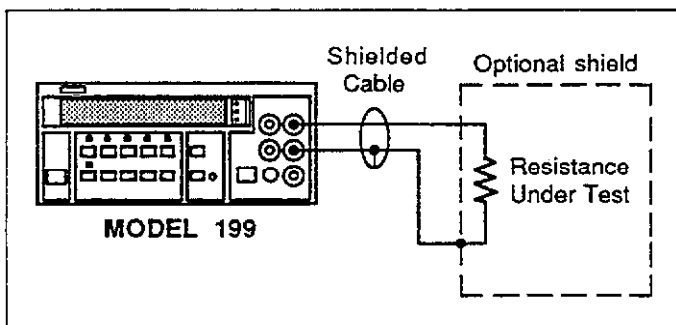
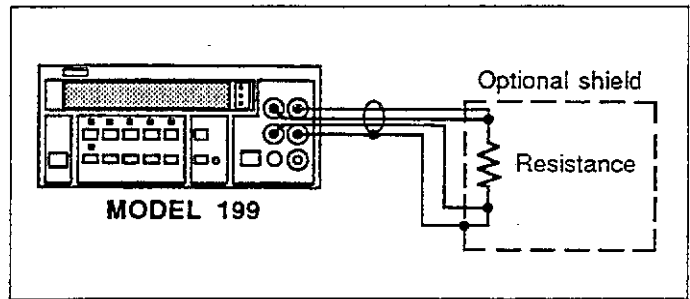

Figure 2-4. Two-Terminal Resistance Measurements
Figure 2-5. Four-Terminal Resistance Measurements
4. For 2-terminal measurements connect the resistance to the instrument as shown in Figure 2-4. For 4-terminal measurements connect the resistance to the instrument as shown in Figure 2-5.